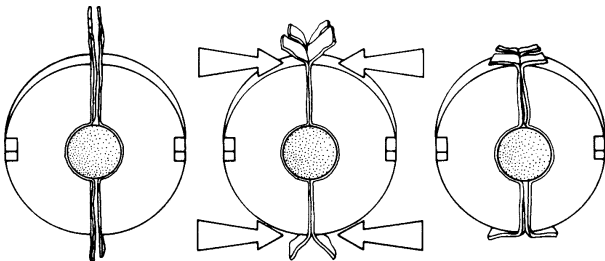

FIGURE 17 - LOCK-TAPE STRIPS SEPARATED AND FOLDED BACK
6.16 Using a ratchet wrench draw the end plate halves completely together until the excess LOCK-TAPE strips separate and lay back. (Figure 17)